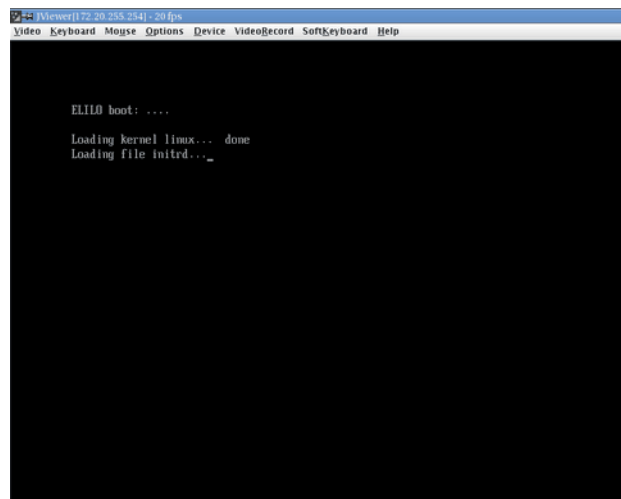

Figure 3-20 ELILO Boot Manager
6. The ELILO boot manager starts executing, as shown in Figure 3-20 on page 54.